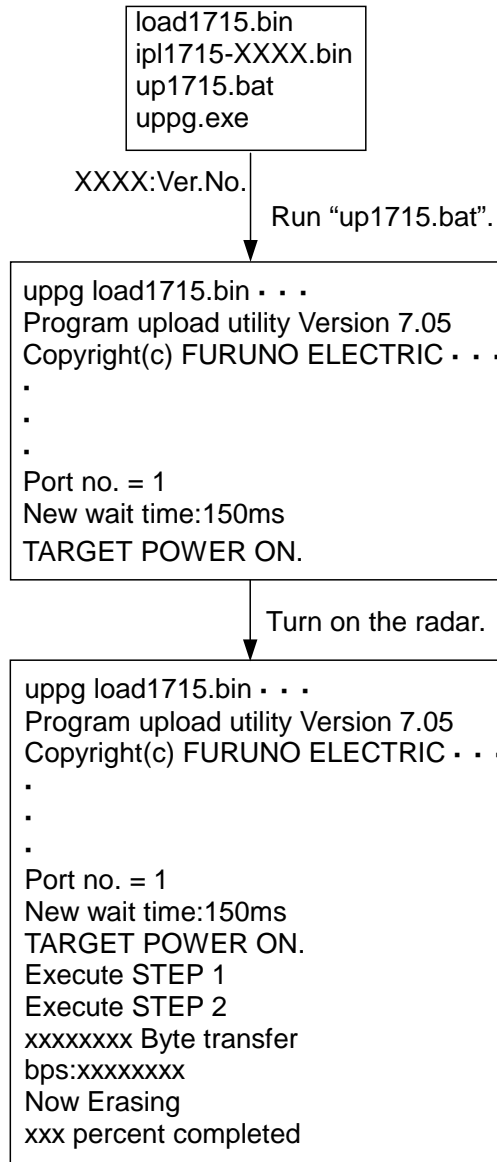

Fig.4-10
4. Turn on the radar. The messages, "Now Erasing" and "000 percent completed" appear on the PC. When the message "Finish Version up" appears, the upgradation is completed. The system restarts automatically. Fig.4-10 shows the change of the display on the PC.